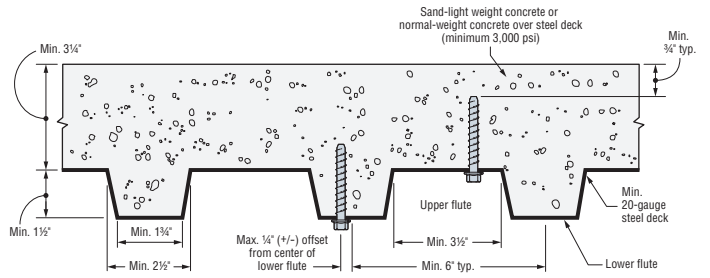

Figure 2. Installation of 1/4"-Diameter Anchors in the Soffit of Concrete over Steel Deck
- For anchors installed in the topside of concrete-filled deck assemblies, as shown in Figures 2 and 3, the nominal concrete breakout strength of a single anchor or group of anchors in shear, V_{cb} or V_{cbg} , respectively, must be calculated in accordance with ACI 318-14 Section 17.5.2 or ACI 318-11 Section D.6.2, using the actual member thickness, $h_{min,deck}$, in the determination of A_{vc} .
- Minimum flute depth (distance from top of flute to bottom of flute) is 1 1/2" (see Figures 2 and 3).
- Minimum concrete thickness ($h_{min,deck}$) refers to concrete thickness above upper flute (see Figures 2 and 3).